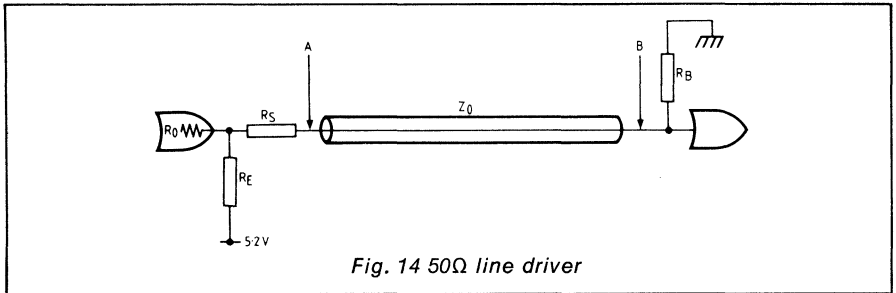

Fig. 14 50Ω line driver
Voltage drops across  $R_s$  limit loading to less than 10. However, multiple  $Z_0$  lines, with separate  $R_s$  resistors may be used. Overall slower propagation delay in series terminated mode may be a disadvantage, partly overcome by multiple transmission lines. This leads to the final line termination form, Fig. 14.
It can be seen from Fig. 14 that the driver is doubly terminated, and resembles both series and parallel systems. At the distant (B) end of the line,